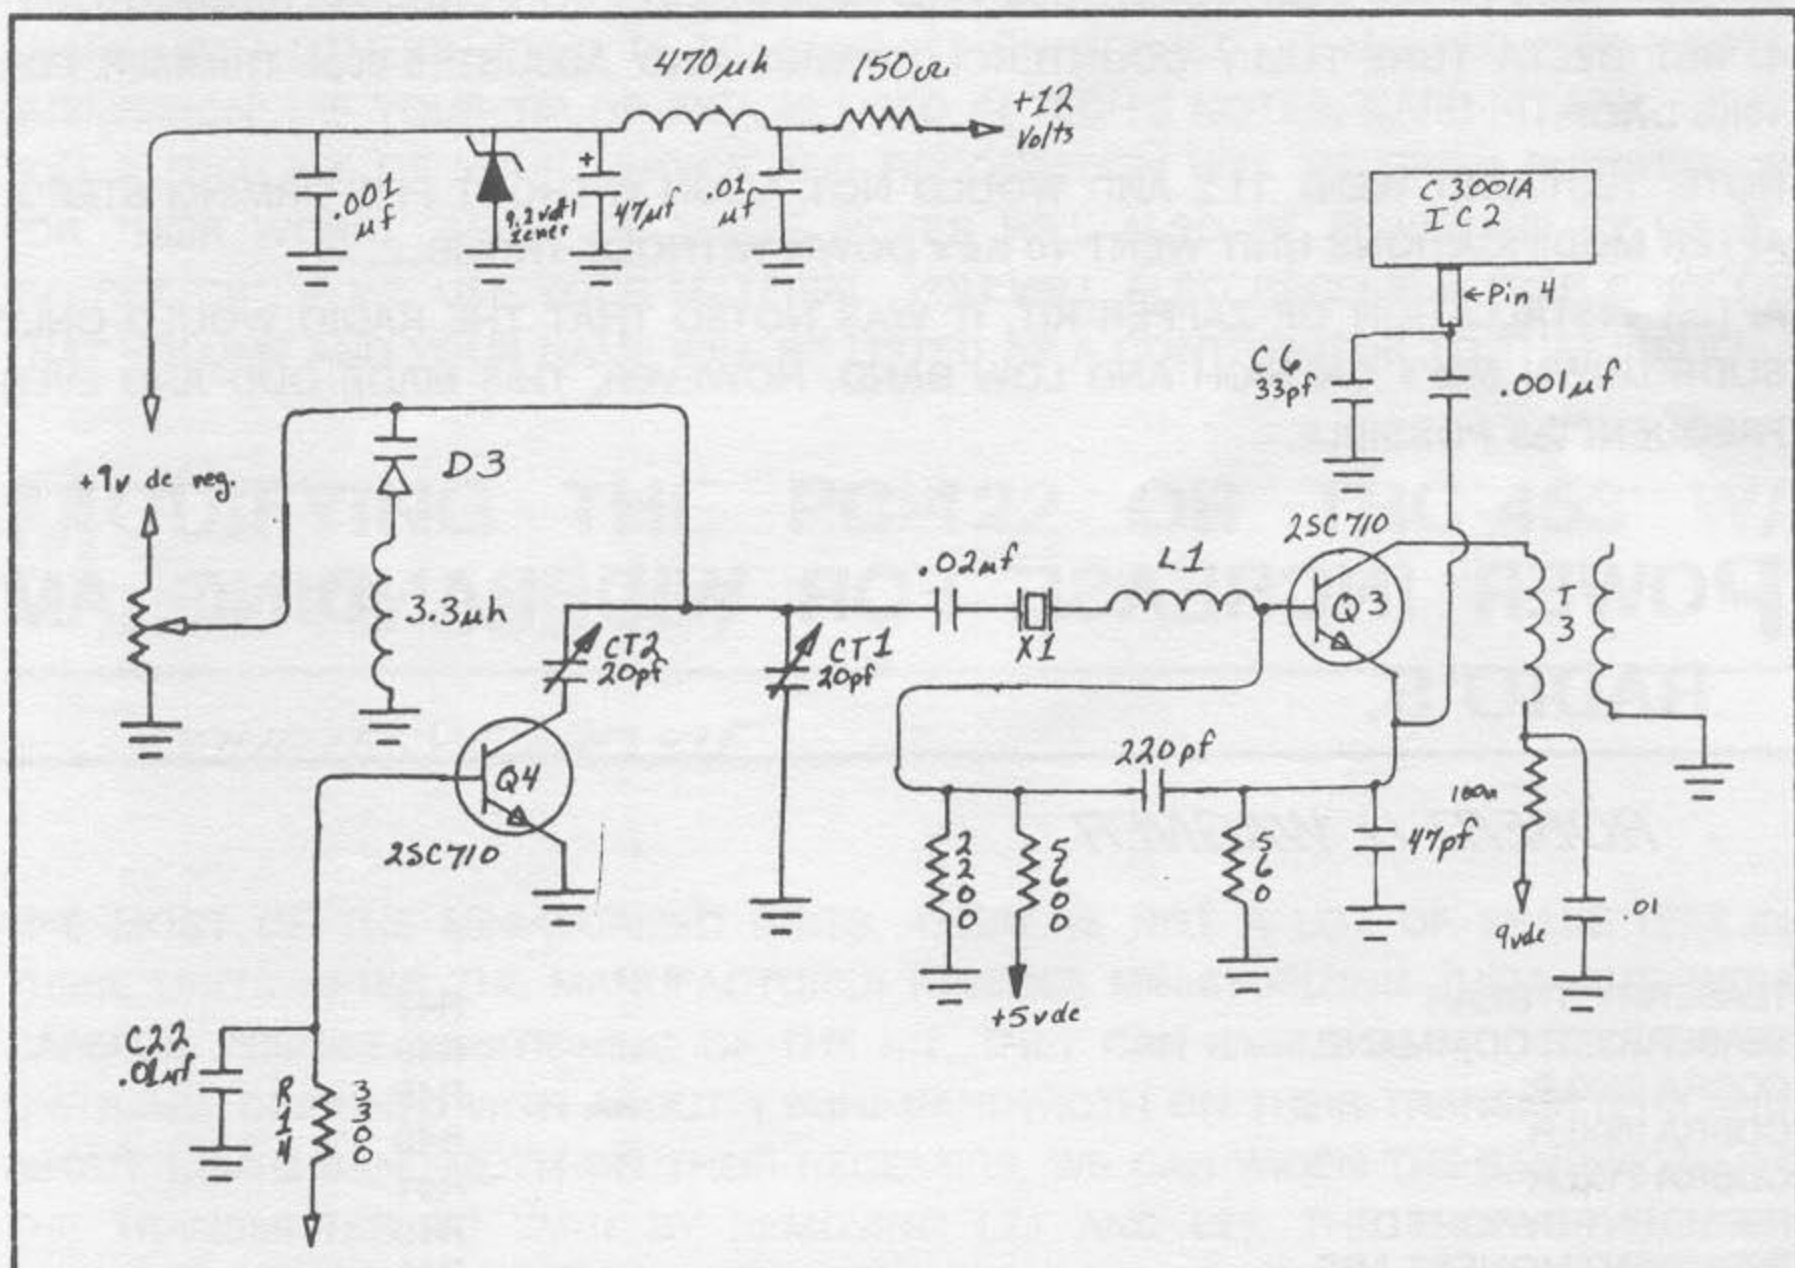

FIGURE 1. O2A CLARIFIER, REFER TO Pg 9
4. PUNCH A 13/32" HOLE AS INDICATED IN FIGURE 1. MAKE SURE TO LEAVE THE MOUNTING EAR ATTACHED AT POINTS A AND B, BY 1/16" SPACE.